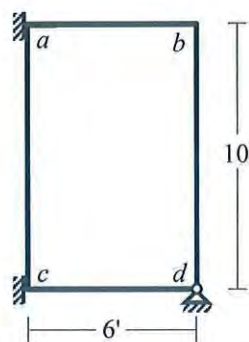

Fig.10
10. Calculate 1st natural frequency of the frame *abcd* shown in Fig.10 using lumped mass matrices